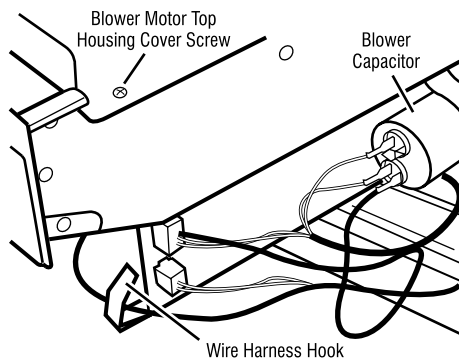

Figure 13. Discharge the blower capacitor at right side of blower motor housing.
- b) Remove the wires from the hook in the blower motor housing. See Figure 13.
- d) **IMPORTANT:** Discharge the blower capacitor by touching a 20,000 Ω resistor to the terminals and chassis. See Figure 13.